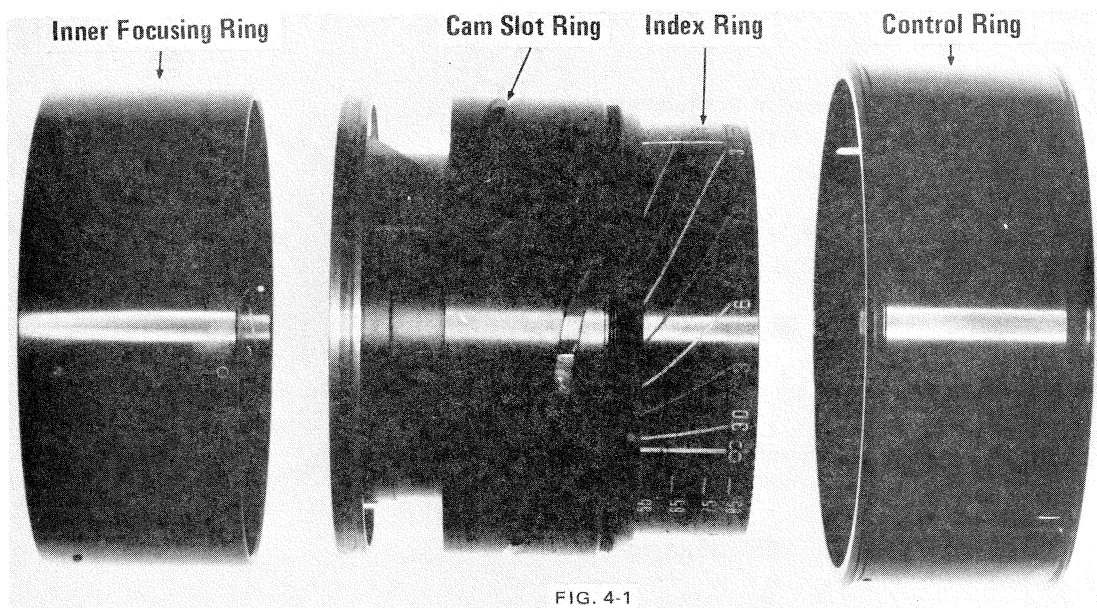

FIG. 4-1
4.1 CONTROL HOUSING (Parts are shown in Fig. 4-1.)